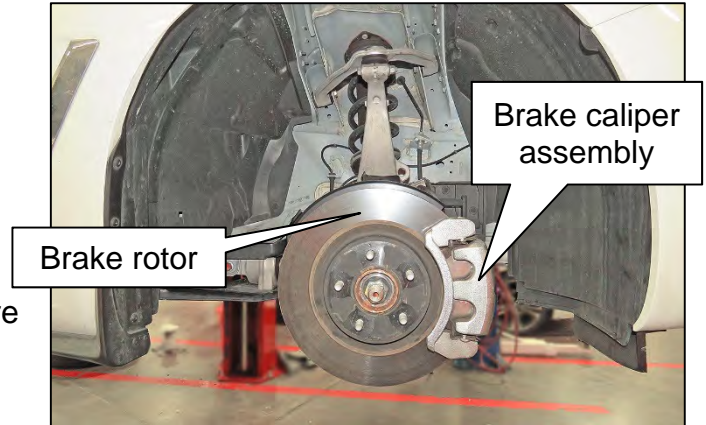

Figure 27
**HINT:** 2 piston caliper shown in Figure 27. 4 piston removal is similar.